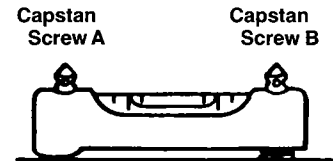

Figure 23
3. If the bubble is not centered, adjust capstan screw B to center bubble on level vial (see Figure 23).